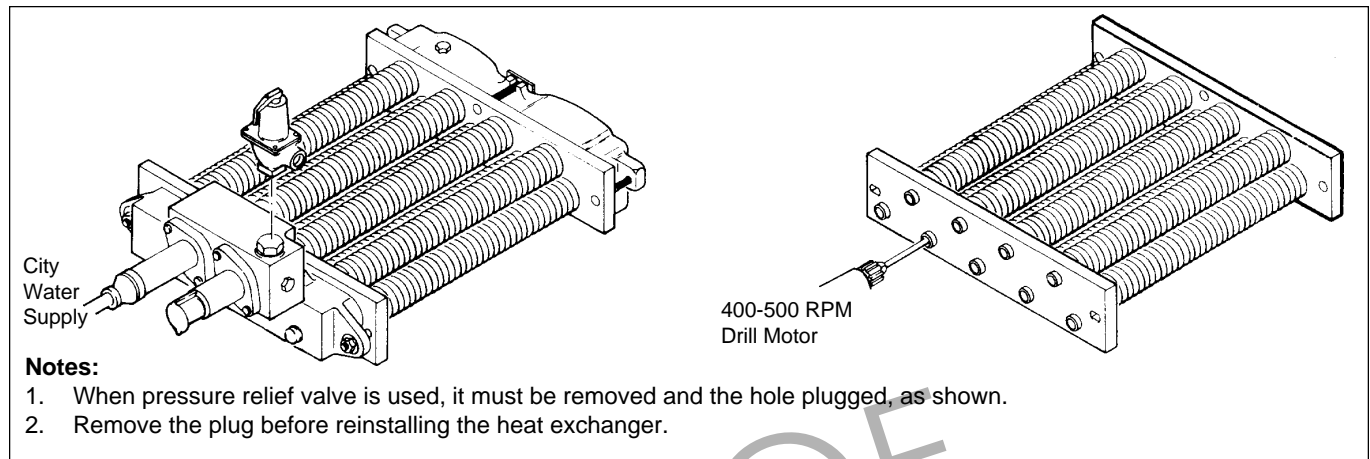

Figure 36. Heat Exchanger Tube Cleaning.
4. Ream the insides of the tubes (see Figure 36).